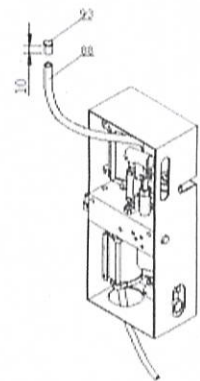

Fig. 4
11.2.2 To avoid oil spillage from the oil hose (88), a plug (93) has been added in the oil hose when packing. To remove the plug, cut the oil hose with the plug about 10mm length. (refer to fig.4)